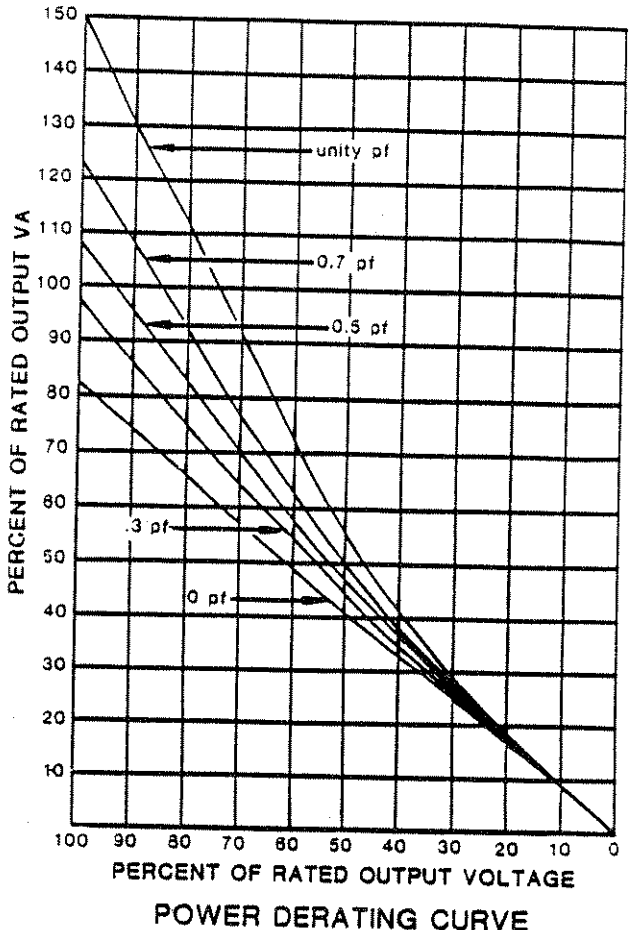
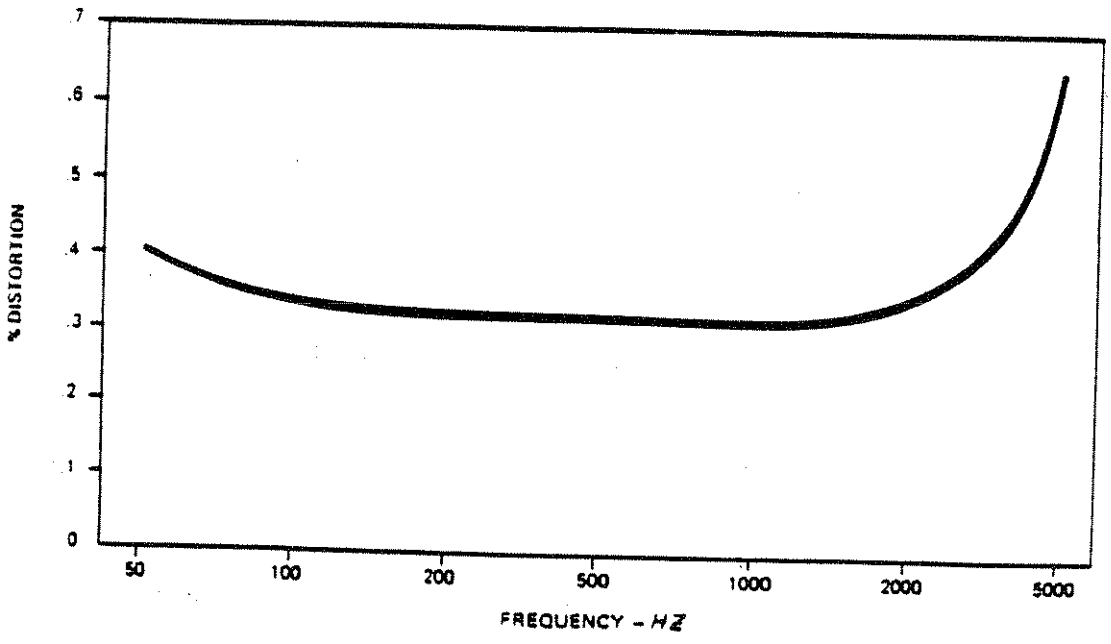

FIGURE 1-1
FIGURE 1-2
1.1.1 This manual describes the Elgar Model 751SL, 1001SL and 1751SL power sources. The series of power sources though functionally equivalent to previously available units, exhibit several notable improvements. Marked reductions in panel height, overall weight, and volume have been achieved. Also, provision has been made in each unit for incorporation of custom functions without resorting to special designs. Each power source described herein provides AC power at precise frequencies for testing, motor operation, and frequency conversion. The basic power amplifier consists of two DC supplies and a direct coupled amplifier driving a tapped output transformer. Nominal output voltage for each of the units is: 0-65, 0-130, 0-260 VAC. Output power at full and at less than full rated voltage is illustrated in the derating chart of Figure 1-1. Figure 1-2 illustrates a typical harmonic distortion curve. Each power source may be wired for 115, 208 or 230V input, 47-63 Hz single phase.
From 110 to 130 volts RMS output with a power factor from unity to $\pm 0.7$ . Refer to Figure 1-1 for power derating curve.
TOTAL HARMONIC DISTORTION:	0.4% maximum from 200 Hz to 1 kHz. 0.6% maximum from 45 Hz to 5 kHz. Refer to Figure 1-2 for typical distortion curve.